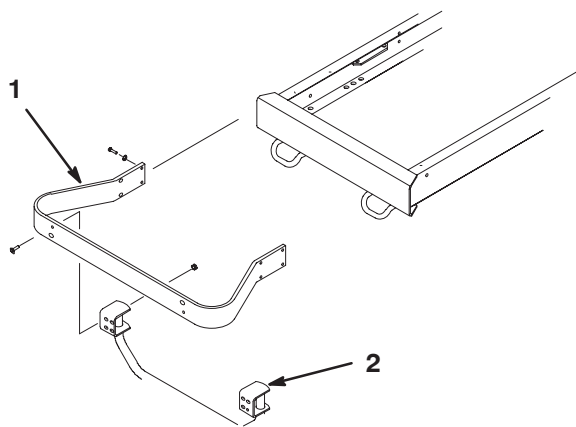

Figure 22
6. Attach the bumper bracket to the frame using eight 3/8–16 x 1–1/4” lg. bolts, washers, and nuts. (Fig. 22).
7. Secure the guard assembly to the bumper bracket with four carriage bolts (Fig. 22).